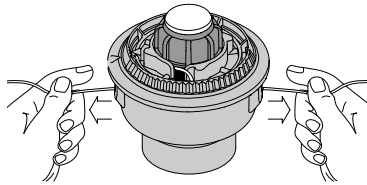

Fig. 20
- Turn the bump knob counterclockwise and remove the bump knob, spring and foam seal (Fig. 20).